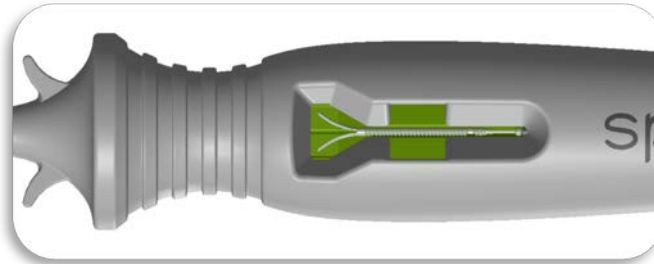

Figure 5: Delivery Device with Implant Loaded
- Using surgical tweezers transfer the Implant from the plastic tray to the loading port of the Delivery Device as shown in **Figure 5**.